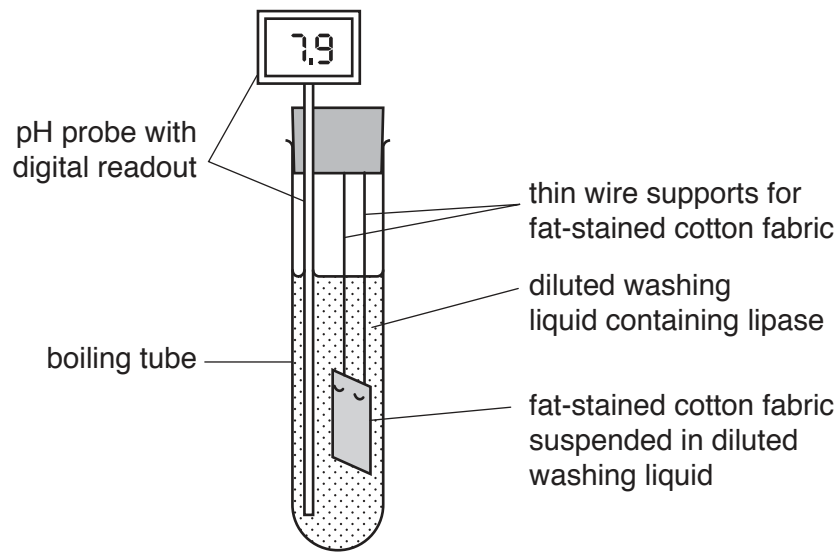

Fig. 1.1
Fig. 1.1 shows the apparatus the students used.
- (c) The students used the apparatus shown in Fig. 1.1 to investigate the effect of lipase concentration on the activity of lipase. They used the different concentrations of lipase that they had decided to prepare.
- (d)** Describe a method the students could use to find the effect of the different concentrations of lipase on the activity of lipase, using the apparatus shown in Fig. 1.1.